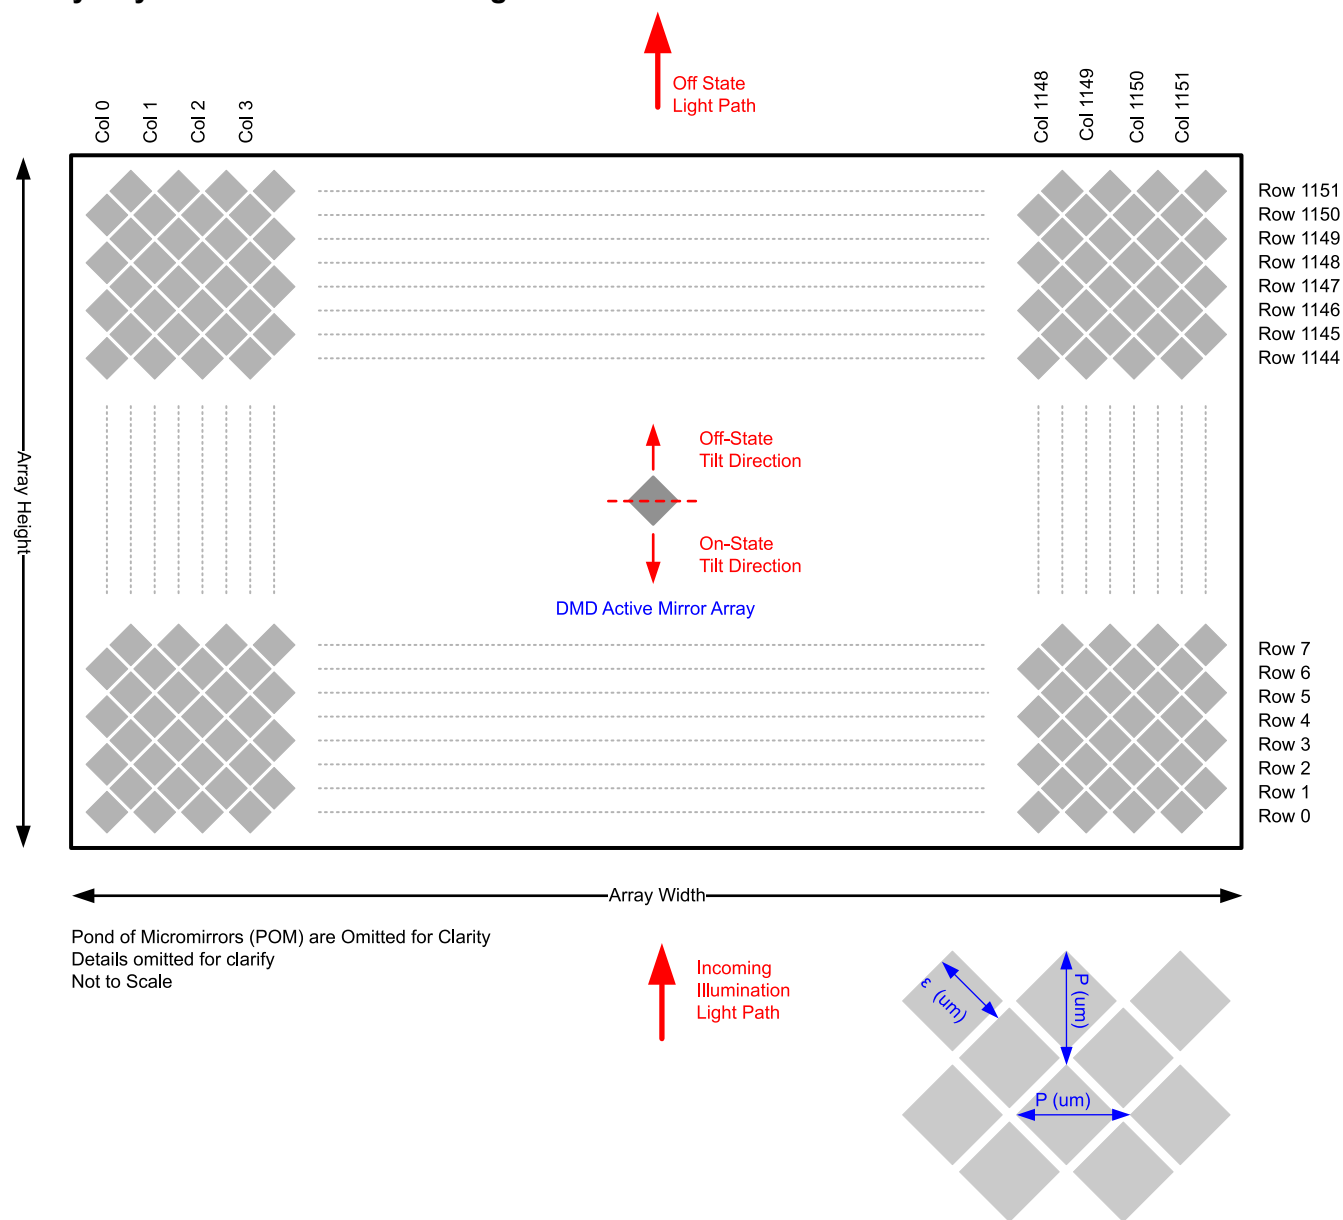

Figure 6-13. Micromirror Array Physical Characteristics
(1) See Figure 6-13
(2) The structure and qualities of the border around the active array includes a band of partially functional micromirrors called the POM. These micromirrors are structurally and/or electrically prevented from tilting toward the bright or ON state, but still require an electrical bias to tilt toward OFF.
The DLP5530S-Q1 Automotive DMD consists of 1,327,104 highly reflective, digitally switchable, micrometer-sized mirrors organized in a two-dimensional array. As shown in Figure 6-13, the micromirror array consists of 1152 micromirror columns \times 1152 micromirror rows in a diamond pixel configuration with a 2:1 aspect ratio.